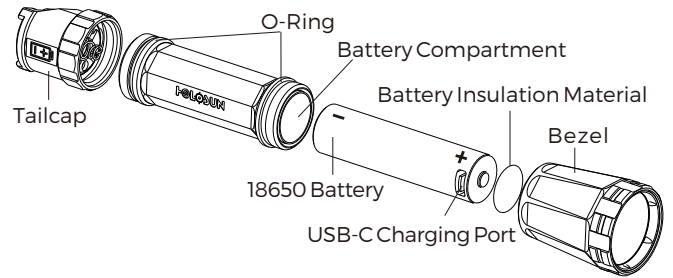

Fig 3
- 4) Install the battery as marked on the housing, positive (+) end forward towards bezel(see Fig 3). Then reinstall the bezel or tailcap by screwing it in a CW direction.
- 4) Connect the USB end of the charging cable to an external USB power source, then attach the other end of the Type-C charging cable to the charging port of the battery. (See Fig 3)